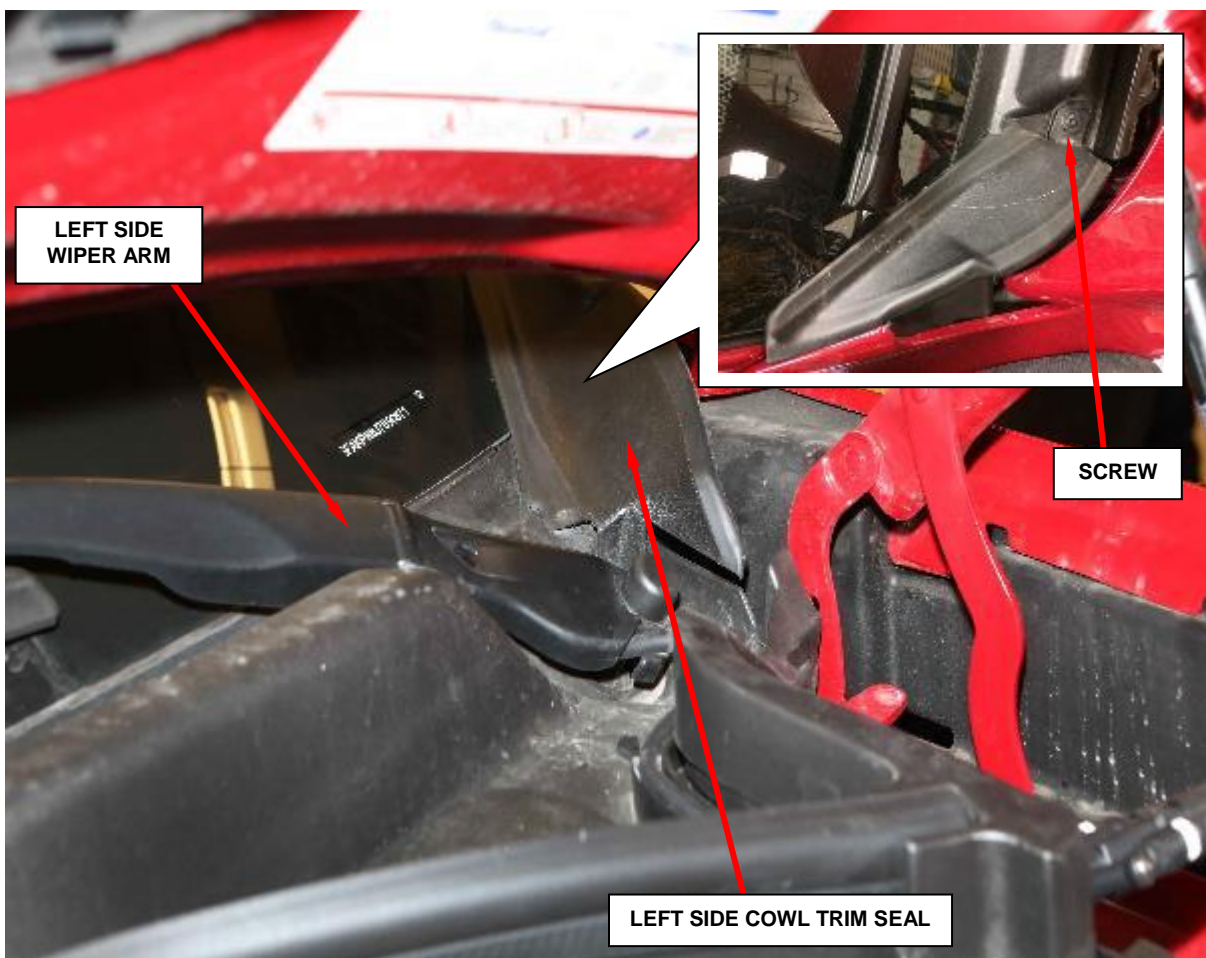

Figure 3 - Left Side Cowl Trim Seal Shown
- a. Remove and save the screws and remove the cowl trim seals by releasing its retainer from the seat, both right and left sides (Figure 3).